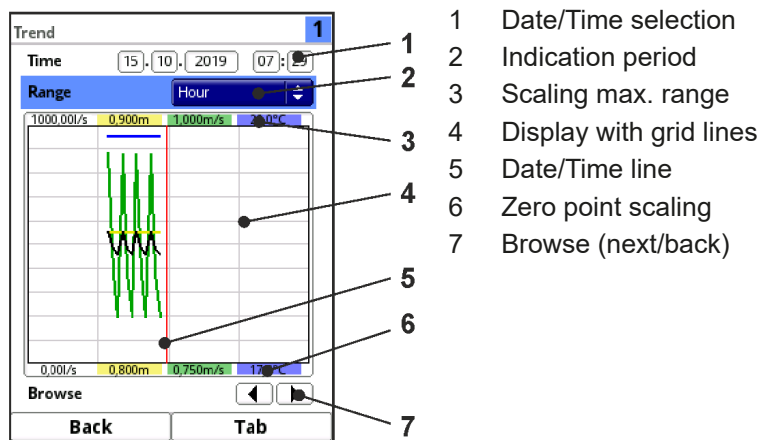

Fig. 32-2 Trend Graph Details
2. Use the arrows (Fig. 32-2 no. 7) to browse next or back if required leaving the basic display settings unaltered.
The **Date/Time Selection** (Fig. 32-2 no. 1) can be found in the top area of the main screen. The line is highlighted blue and hence active.
5. Confirm your entry with the right function key. Date and time will be accepted. The readings are shown in the display depending on the date and the period selected (Fig. 32-2 no. 2).
The vertical red line (Fig. 32-2 no. 5) marks the selected point of time (date and time).
➡ Modify the setting using the >Range< section (see Fig. 32-2 no. 2).